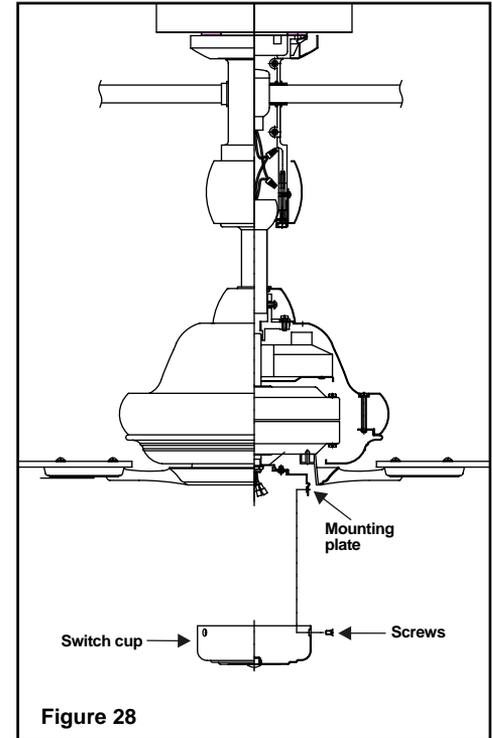

Figure 28
Step 1. Remove the screws from the mounting plate. Slide switch cup up against plate and rotate it until the screw holes are aligned. Secure switch cup to plate using the screws removed earlier. (Fig. 28)